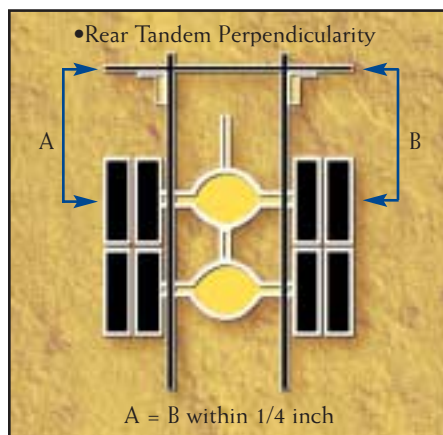

Figure 6.12
- Axles should be perpendicular to the chassis centerline within 1/8-inch measured between axle end and vehicle centerline. Figure 6.12